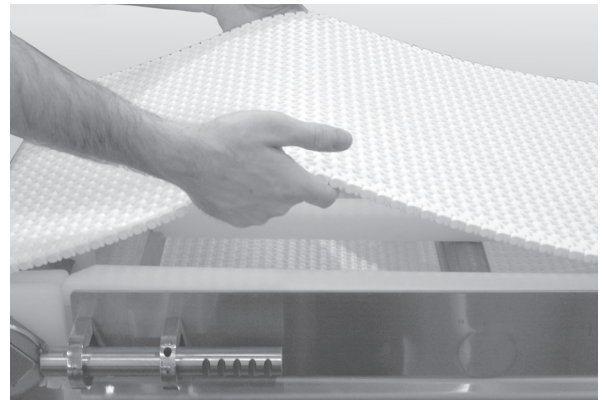

Figure 43
3. Lift up on the belt (Figure 43).